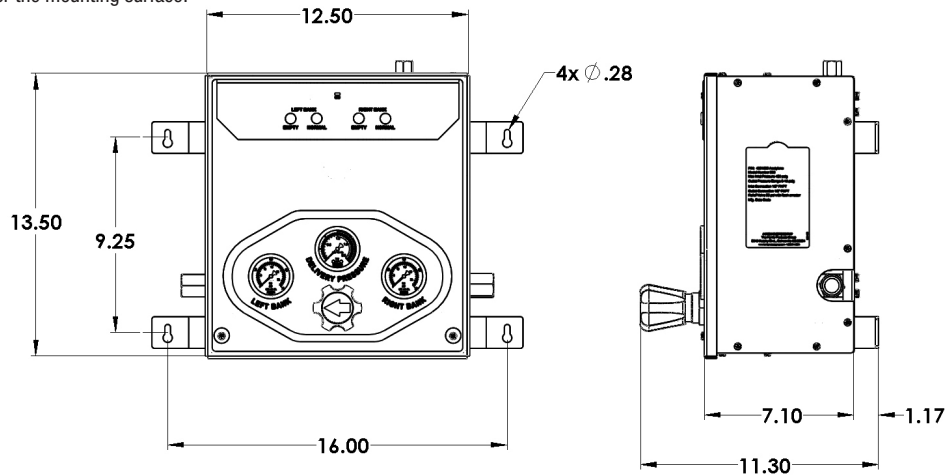

Figure 2
1. The control box should be attached to a wall or other secure structure such that the inlet connections to the box are approximately 60 inches from the floor. This dimension can be slightly higher or lower depending on the cylinder height. The mounting dimensions for the control box are shown in Figure 2.